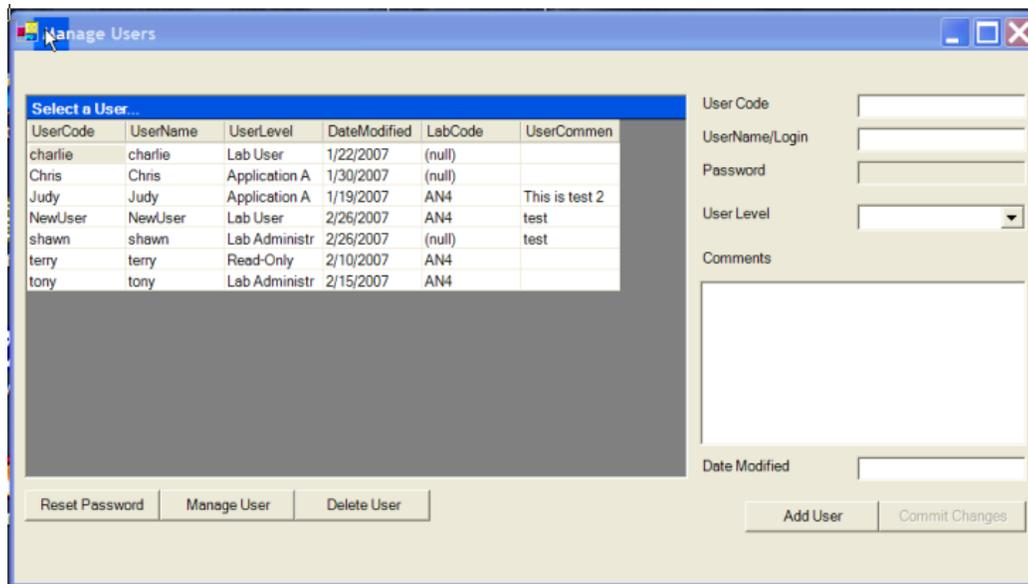

Figure 73. Manage Users
- (1). Press Manage users and the following screen will appear (Figure 73).